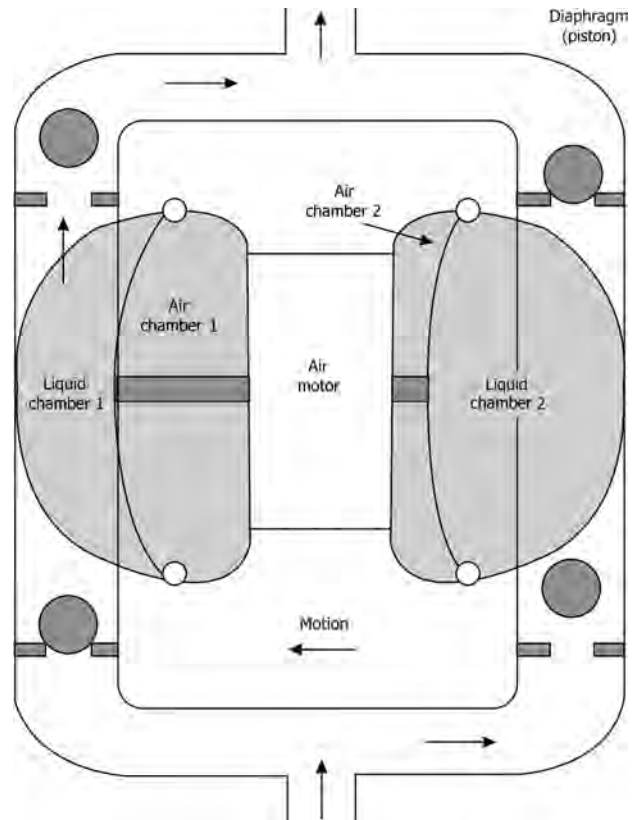

FIGURE 5.28 Air-operated double diaphragm pump.
- The diaphragm pump in Figure 5.28 is shown with the diaphragms moving to the left. On this part of the cycle, liquid chamber 1 is discharging. The inlet check valve in this liquid chamber is closed and its discharge check valve is open, while the second chamber is filling.